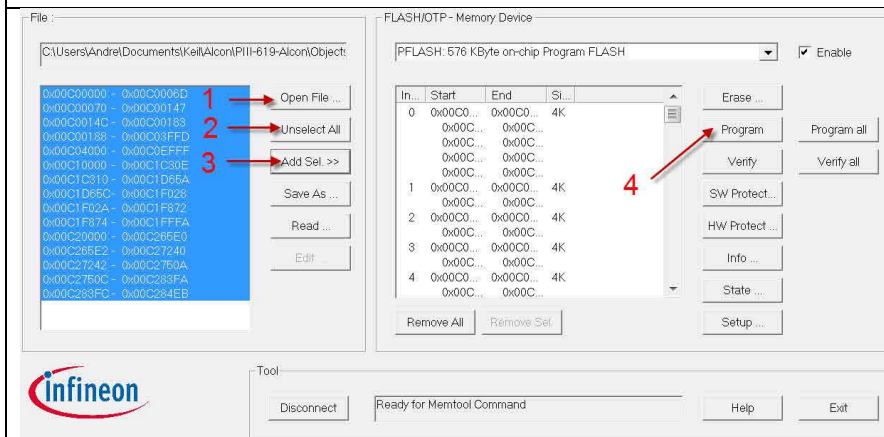

Figure 85
2. Click "*Open File ...*" button [1] in Figure 85 and browse to the location *C:\Videologix-IV\Firmware\VxPx.H86* to obtain latest firmware. You may have to change the file extension to "H86-Files" as shown below:
3. Click "*Select All*" button [2] in Figure 85
4. Click "*Add Sel >>*" button [3] in Figure 85
5. Click "*Program*" button [4] in Figure 85. Memtool will start programming Proteus
8. Click "Disconnect" button in Figure 85